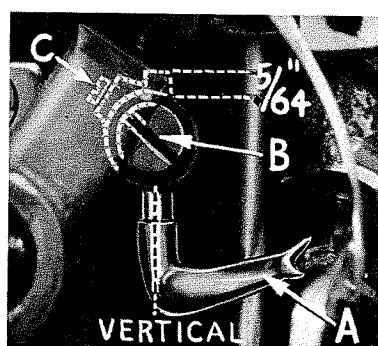

Fig. 8
Insert spreader (A, Fig. 8) in its holder. Screw (B) holds the spreader in its holder and permits spreader to be pushed in or out, or turned around its shank. Screw (C) on the collar holds spreader holder in the shaft, and allows the holder to be rotated or adjusted laterally.
Preliminary Setting: When spreader is at the right end of its stroke, spreader holder should be set to position the spreader shank about vertical (Fig. 8). The top end of the spreader shank should extend approximately  $5/64$  inch above holder (Fig. 8).